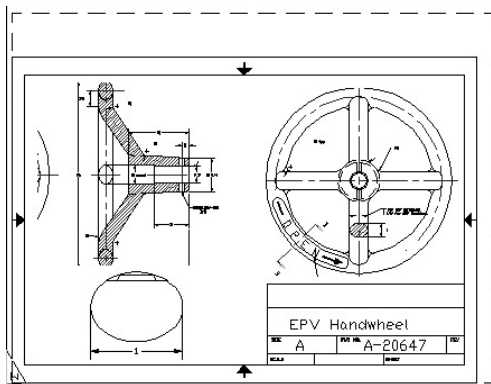

Figure 17-13: The completed drawing layout is now ready for plotting.
17. Double-click inside each viewport in turn to switch to model space, and pan until you see the view shown in Figure 17-13. It doesn't have to match exactly. If you want, you can resize the viewports to fit the models better.
21. Choose Draw ⇄ Text ⇄ Single Line Text. Complete the text in the title block at the default height, as shown in Figure 17-13.